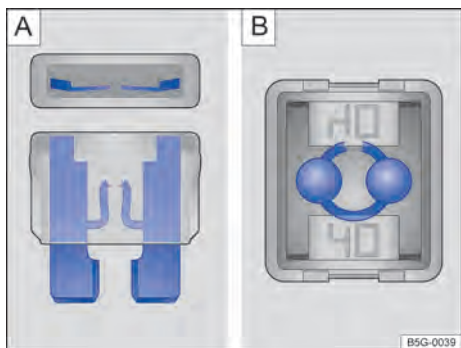

Fig. 175 Blown fuse: A flat fuse, B blocking fuse.
- A blown *blade fuse* (ATO[®], MINI[®]) is detected from above or from the side through its transparent body by the melted metal strip → Fig. 175 .
- A blown *cartridge fuse* (JCASE[®]) is detected from above by the melted metal strip visible through the transparent housing → Fig. 175 .